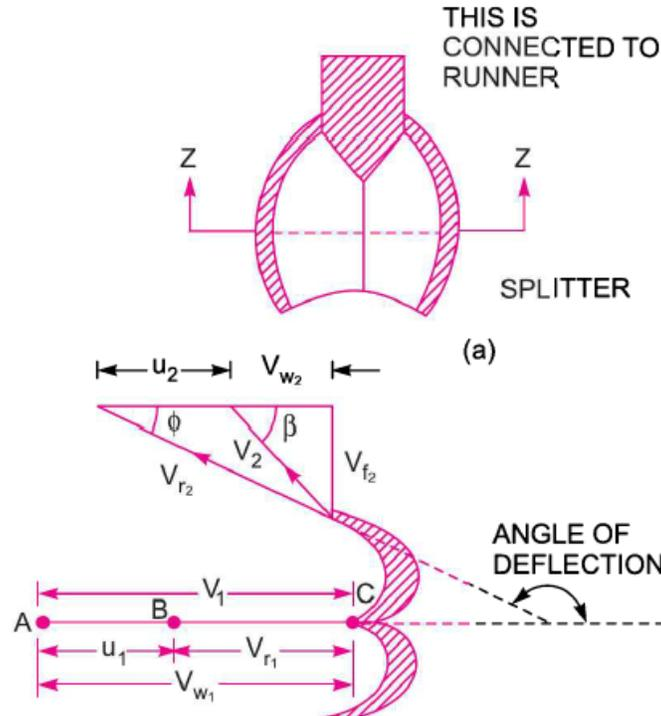

Fig. 18.5 Shape of bucket.
18.6.1 Velocity Triangles and Work done for Pelton Wheel. Fig. 18.5 shows the shape of the vanes or buckets of the Pelton wheel. The jet of water from the nozzle strikes the bucket at the splitter, which splits up the jet into two parts. These parts of the jet, glide over the inner surfaces and comes out at the outer edge. Fig. 18.5 (b) shows the section of the bucket at Z-Z. The splitter is the inlet tip and outer edge of the bucket is the outlet tip of the bucket. The inlet velocity triangle is drawn at the splitter and outlet velocity triangle is drawn at the outer edge of the bucket, by the same method as explained in Chapter 17.